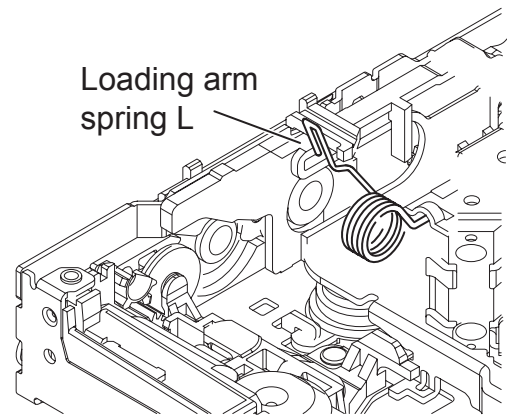

Fig.9
### 3.3.4 Removing the Gear base assembly (See Fig.9, 10)
- (1) Remove the Loading arm spring L. (See Fig.9)